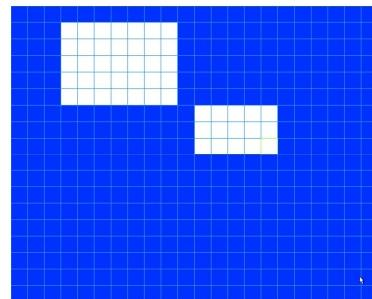

Figure 4-24
- Region: Click select button, the interface is shown as in Figure 4-24. Here you can set motion detection zone. There are 396(PAL)/330(NTSC) small zones. Blue zone is the motion detection zone. White zone is the disarmed zone. System can only detect motion detect signal from the arm region. You can click Fn button to switch between the arm mode and disarm mode. In arm mode, you can click the direction buttons to move the green rectangle to set the motion detection zone. After you completed the setup, please click ENTER button to exit current setup. Do remember click save button to save current setup. If you click ESC button to exit the region setup interface system will not save your zone setup.
In Figure 4-24, you can left click mouse and then drag it to set a region for motion detection. Click Fn to switch between arm/withdraw motion detection. After setting, click enter button to exit.